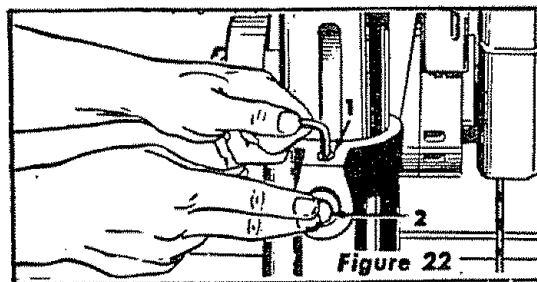

Figure 22
If excessive radial arm movement is noticed even though the arm is locked in position, check the fit of the column tube key (Item 2, figure 22) and the keyway in the column tube.
1. Adjust by loosening the socket set screw (Item 1, figure 22), using the 7/16 hex "L" wrench.
3. Tighten the set screw (Item 1, figure 22) securely while maintaining pressure on the key.